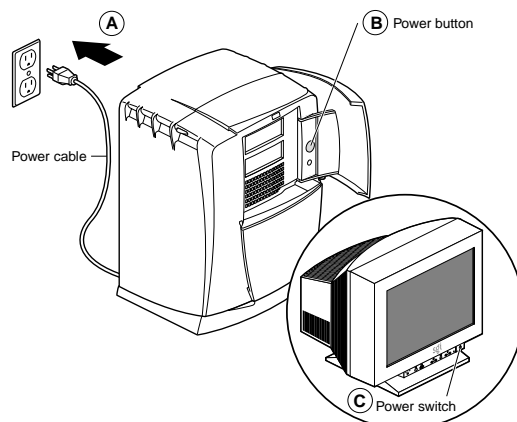

Figure 2-19 Powering On the Workstation
1. Plug the power cable (see A in Figure 2-19) into an electrical outlet.
2. Press the power button (B) on the front of your workstation.
3. Press the monitor power switch (C) to power on your monitor.